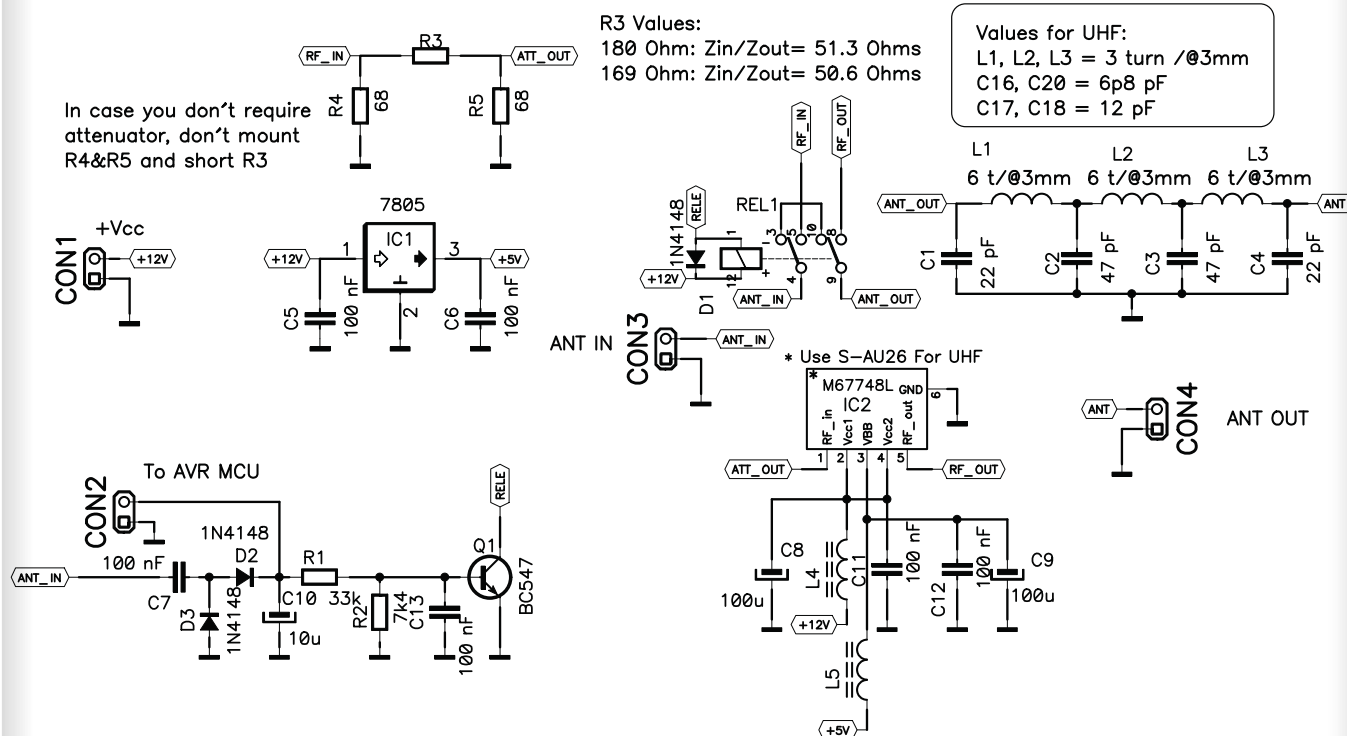

Figure 2: Schematic diagram of Weekend VHF/UHF Power Amplifier
Luckily we have few I/O pins free on our ATmega328 MCU, so we can spend one pin that will enable our PA. On Fig. 2 see schematics of Weekend VHF PA, where you will notice the connector CON2 to which AVR pin connects.
Schematic diagram can be seen on Fig. 2 and as you see it was broken to few parts.
You will see on Fig. 2 the 5V regulator (IC1) and it's components, relay switch around transistor Q1, attenuator (R3, R4, R5), circuit around Power Amplifier (PA) module and output filter.
There is however another possibility of M67748L usage: we can drive it with 1 Watt that we get from DRA818V VHF module and PA module would then deliver >7 Watt at VHF band. We can do that with our Weekend radio providing that we have built in DRA818V - VHF version. In this case we must make sure that attenuator is included on the PCB. On the schematic diagram on Fig. 2 can be seen variants of R3 values. If you can buy 169 Ohm resistor it would be great because in this case  $Z_{in}/Z_{out}$  are close to 50 Ohms. If 169 Ohms resistor cannot be obtained then use 180 Ohms resistor with slight impedance mismatch.